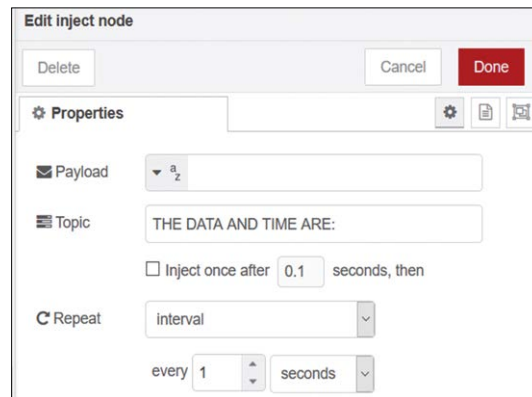

Figure 4.11 The inject node
- Double click on this node, click on **Payload**, select **String** and enter the following string **THE DATE AND TIME ARE:.** Select the Repeat interval to 1 second as shown in Figure 4.11.